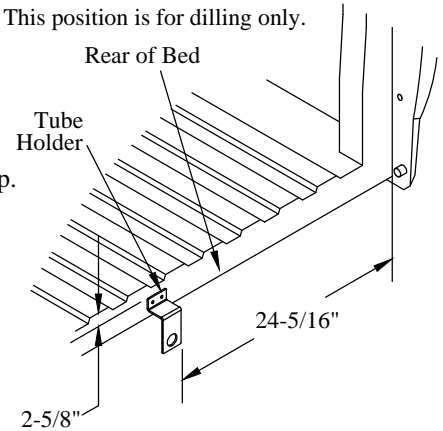

Figure 8: Tube holder drilling location.
1. **Position** the supplied spare tire tube holder on the rear of the bed (Figure 8).